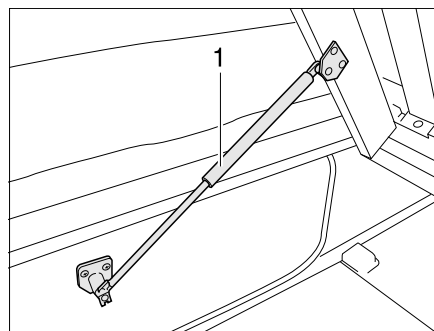

Fig. 177 Fixed bed
■ Lift slatted frame. The gas-pressure springs (Fig. 177,1) hold the slatted frame open.